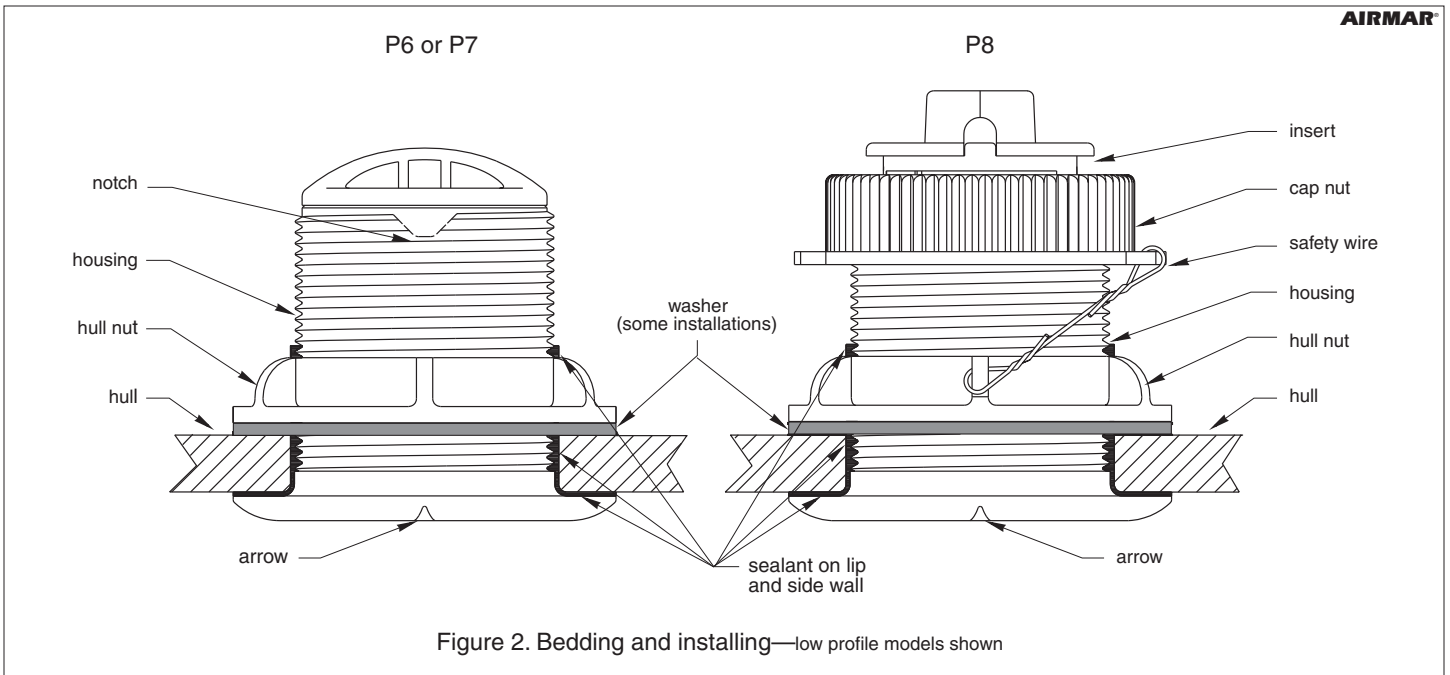

Figure 2. Bedding and installing—low profile models shown
Apply a 2mm (1/16") thick layer of marine sealant around the lip of the housing that contacts the hull and up the sidewall of the housing. The sealant *must* extend 6mm (1/4") higher than the combined thickness of the hull, any washer(s), and the hull nut (see Figure 2). This will ensure there is sealant in the threads to seal the hull and hold the hull nut securely in place.
1. From outside the hull, push the housing (and cable if applicable) into the mounting hole using a twisting motion to squeeze out excess sealant. *Align the arrow on the lip of the housing to point forward toward the bow* (see Figure 2).
Slide the insert into the housing with the *arrow on the top pointing forward toward the bow*. Seat it into place with a pushing twisting motion until the key fits into the notch (see Figure 2). The arrow on the top of the insert, the notch, and the arrow on the lip of the housing will all be aligned. *Be careful* not to rotate the housing and disturb the sealant.
Attach the safety wire to one eye in the hull nut. Lead the wire in a counterclockwise direction and thread it through one eye in the cap nut. Twist the end securely to the wire (see Figure 2).
- Remove the safety wire from the cap nut (see Figure 2).
- Reattach the safety wire to the cap nut (see Figure 2).